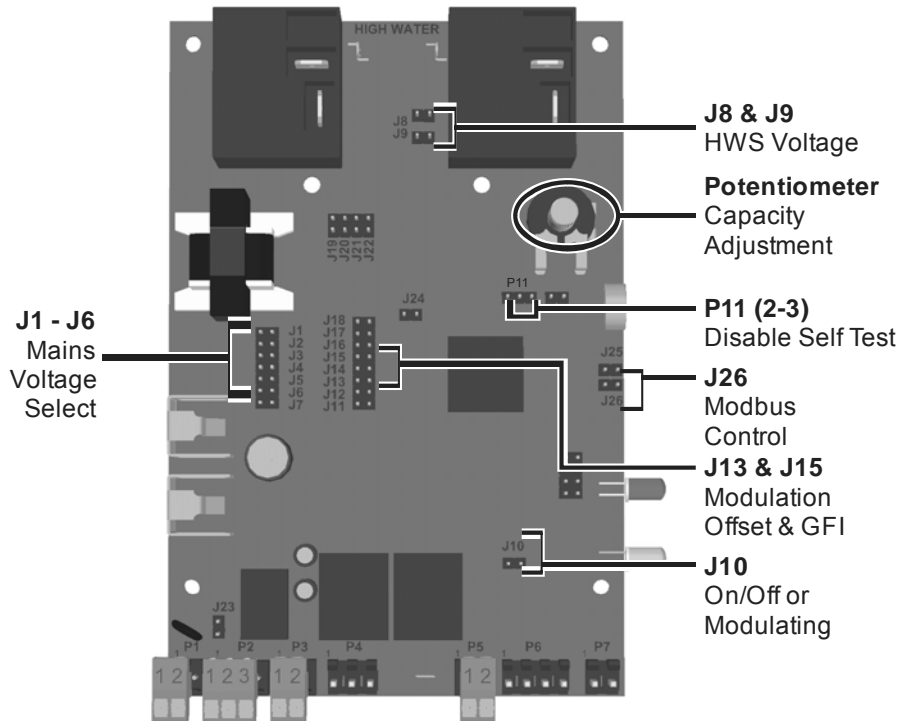

Figure 21: Nortec MES2 Control Board
- 1 Ensure mains voltage and HWS jumper settings match operating voltage (see table below for setting, see Figure 21 for jumper location).
The Nortec MES2 is factory configured to operate under most conditions without the need for any changes to its configuration. If required several settings can be made using jumpers on the Nortec MES2's control board. The output of the Nortec MES2 can also be reduced by using a potentiometer on the Nortec MES2's control board. See Figure 21: Nortec MES2 Control Board Jumpers for location of jumpers and the capacity adjustment potentiometer.